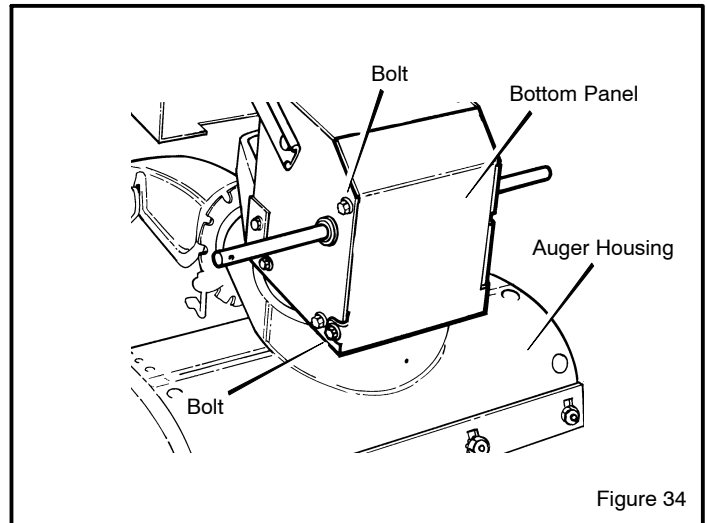

Figure 34
2. Loosen the **bolts** on each side of the **bottom panel** (see Figure 34).
18. Install the **bottom panel** (see Figure 34).
13. Install the **bottom panel** (see Figure 34).